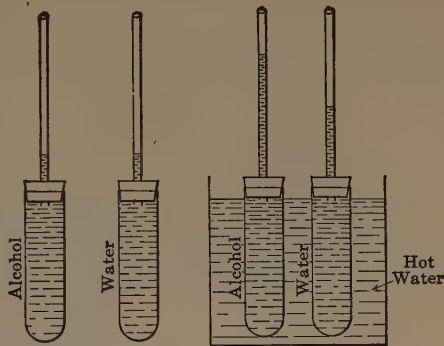

FIG. 41. — Alcohol expands more than water does under the same change in temperature.
**Expansion of liquids.** Fit two test tubes of the same size with rubber corks, each having a glass tube, 10 inches long, inserted in it as in Fig. 41. Fill one tube with colored water. Close with the stopper,